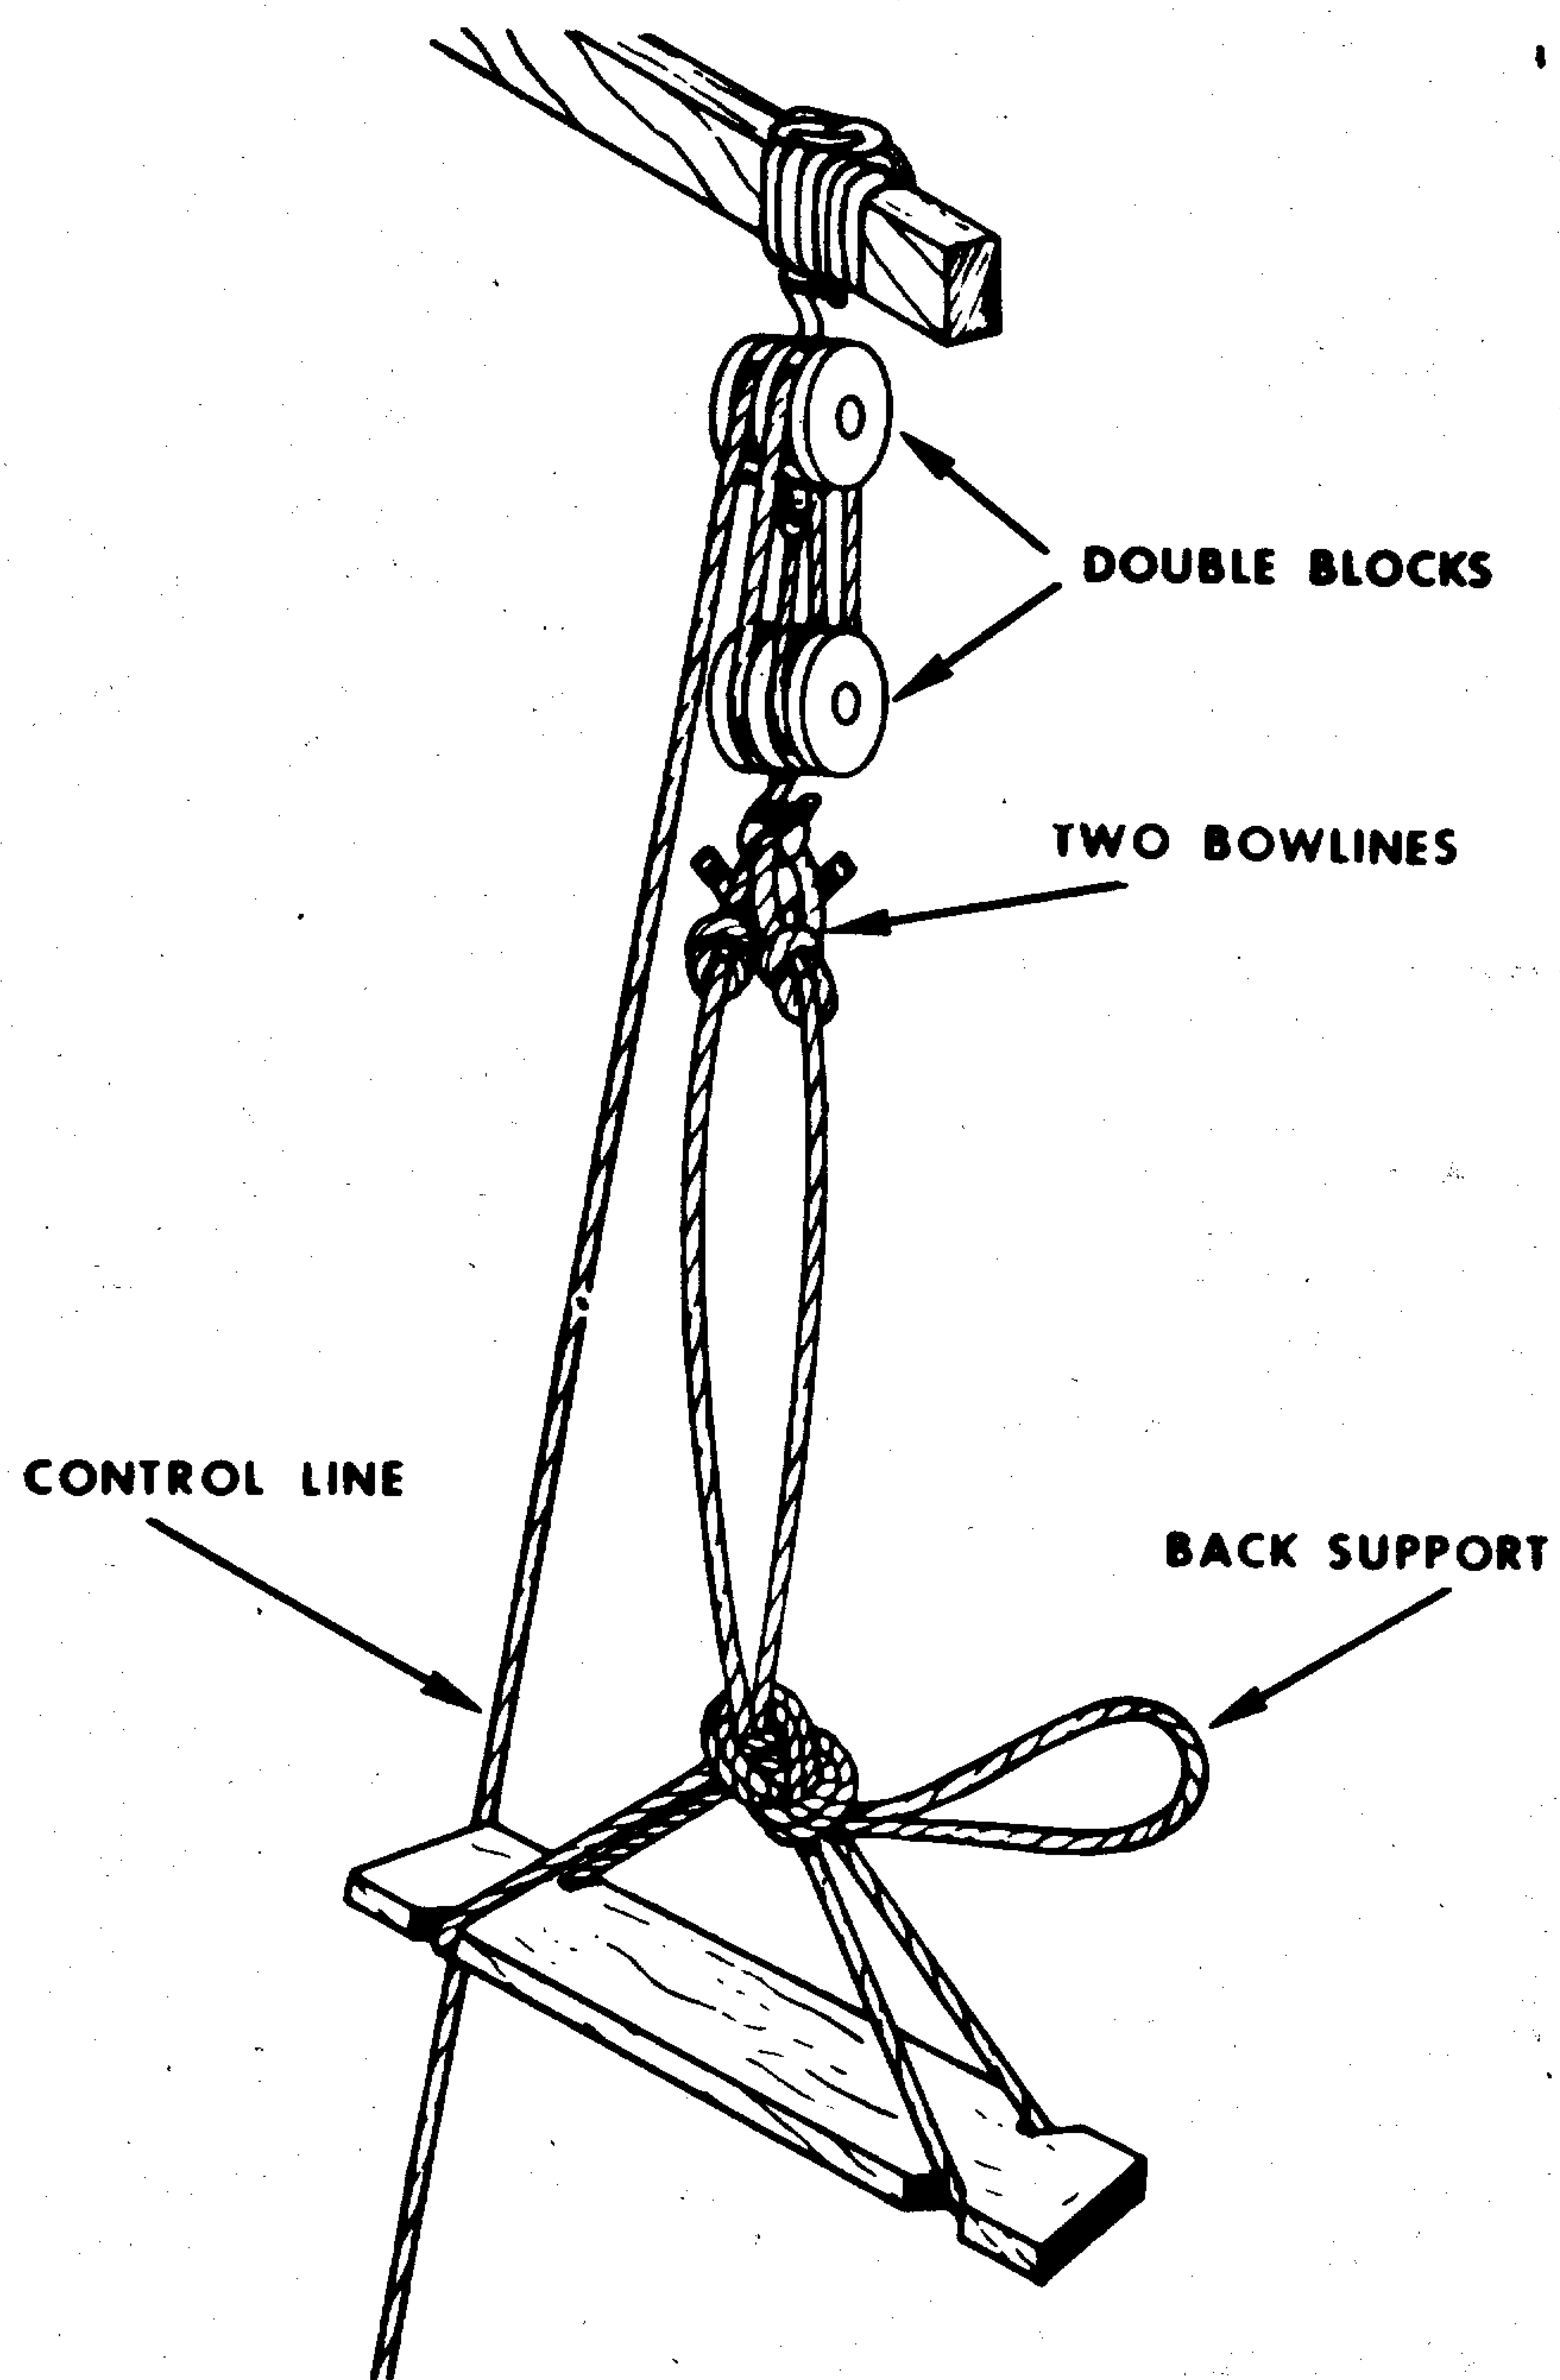

Figure 6-10. Boatswain's chair with tackle.
c. Boatswain's Chair With Tackle. The boatswain's chair is supported by a four part rope tackle (fig. 6-10), two double blocks. One man can raise or lower himself, or be assisted by a man on the ground. When working alone the fall line is attached to the lines between the seat and the traveling block with a rolling hitch. As a safety precaution, a figure eight knot should be tied after the rolling hitch to prevent accidental untying.